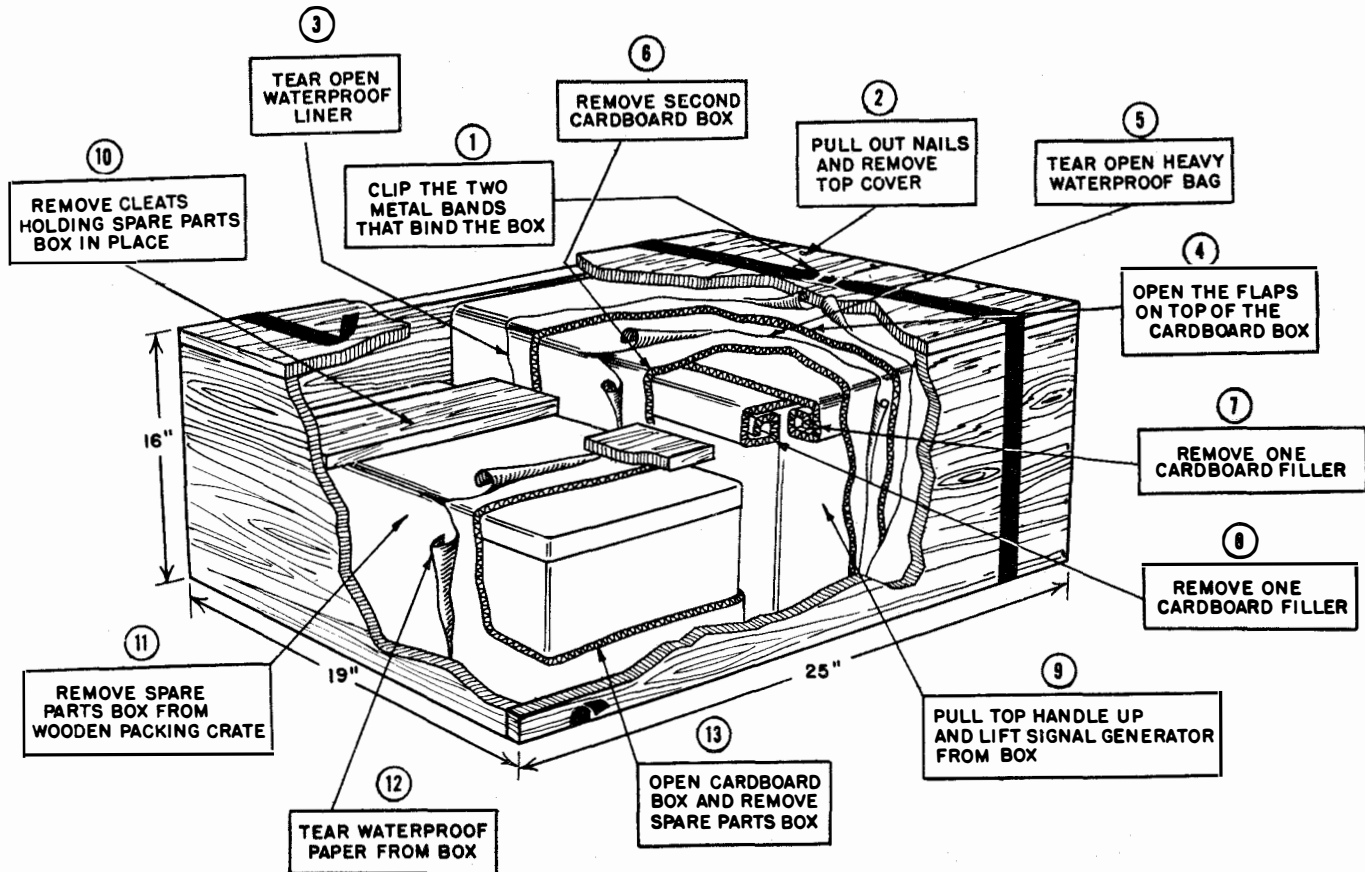

Figure 3-1. RF Signal Generator Set AN/URM-25, Unpacking Procedure for Sets Shipped with Equipment Spares
a. The AN/URM-25 is packed in a wooden box together with a set of equipment spares (parts peculiar). Electron tubes are shipped in place. The signal generator with its accessories, and the set of spares are in turn enclosed in separate, specially cushioned cardboard cartons. Exercise great care in removing these items (See figure 3-1).